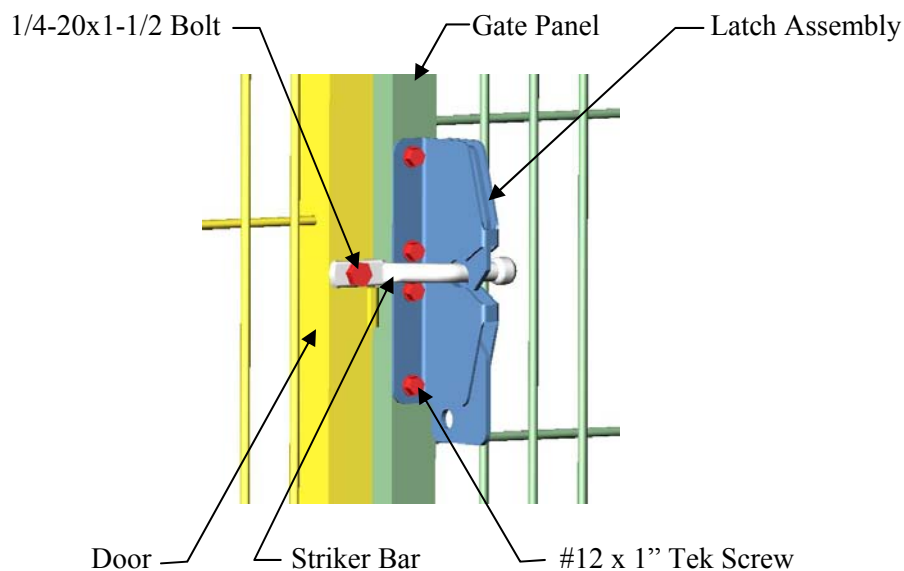

Figure 34
1. Install the Striker Bar to the pre-drilled Door using a 1/4"-20 x 1-1/2 Hex Bolt and 1/4"-20 Nylox Nut (**Figure 34**). Position the Striker bar into a horizontal position.
2. Hold the Latch Assembly in place against the Gate Panel and close the Door. Make sure to center the Striker Bar within the latch pocket and latch looks straight. Using (4) 1" Tek Screws, attach the Latch Assembly to the Gate Panel (**Figure 34 & 34A**).